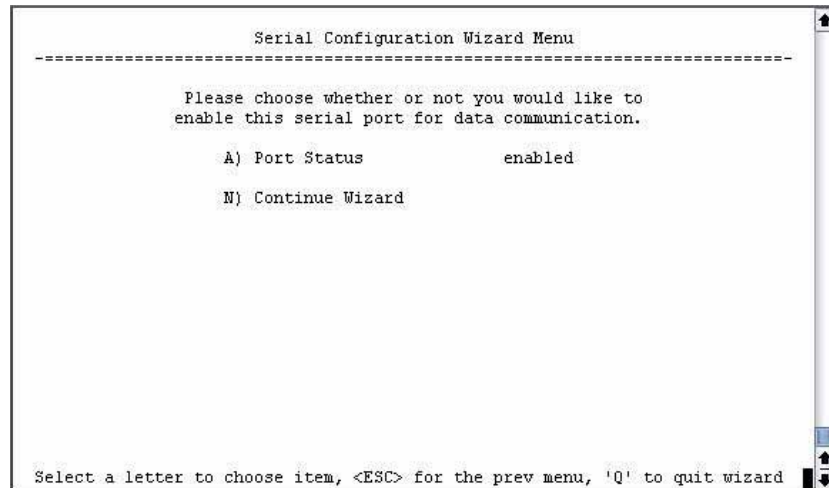

Figure 3-50. Serial Port Status Screen
7. On the next screen (Figure 3-50 on Page 84), select **A** and use the spacebar to enable the serial port for data communication. Press **N** to continue the wizard.